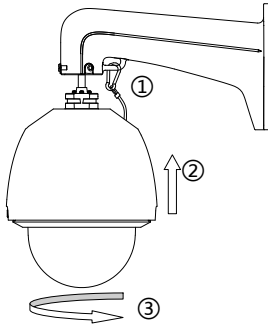

Figure 1-13 Mount the Dome
1. Hang the safety rope to the speed dome and then hook to the mount as shown in Figure 1-13.